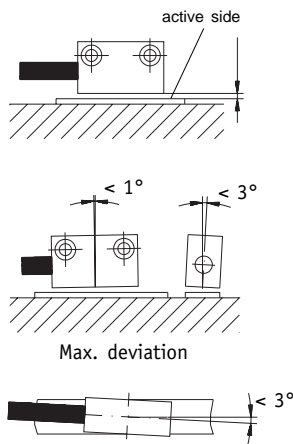

Fig. 7: Mounting of sensor
- When mounting the magnetic sensor, ensure that the gap between strip and sensor and the max. admissible deviation are maintained over the total measuring length! (see fig. 7)